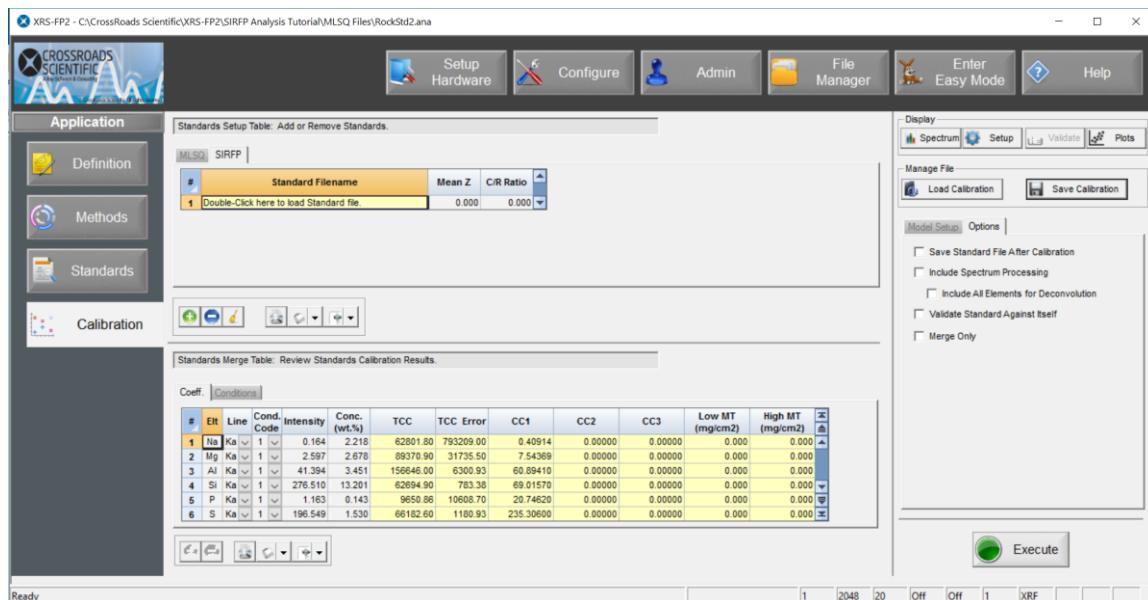

Figure 14. Application Workflow – Calibration. Select the “Calibration” button.
20. Then select the **Calibration** button in the Application workflow shown below in Figure 14. This is where we will merge the SIR-FP calibration from above with the multiple standard (MLSQ) calibration.